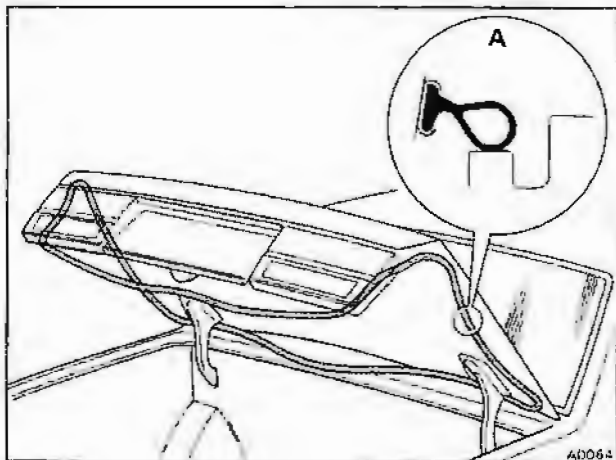

Fig. S7-2 Luggage compartment lid seal
3. Loosely fit the moulded corners of the seal into position on the luggage compartment lid (see fig. S7-2).
4. Ensure that the seal is positioned with the narrower fitting flange upwards (see fig. S7-2, inset A).